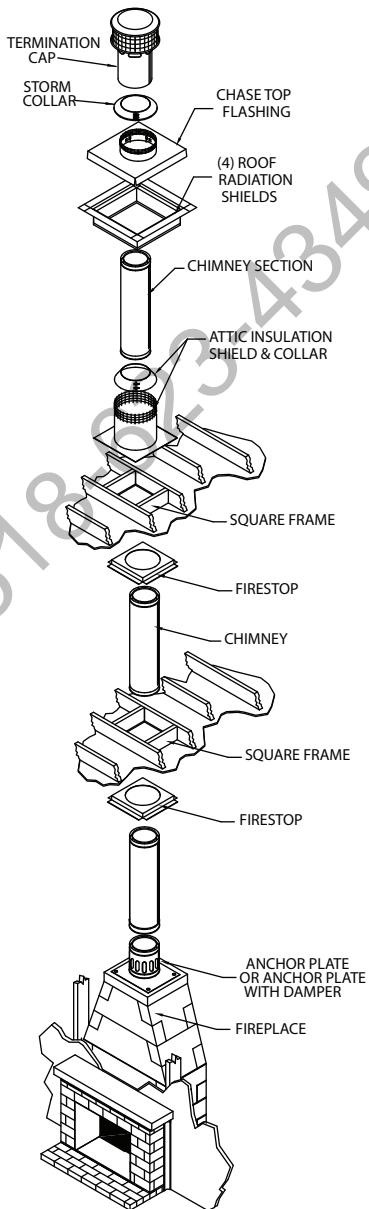
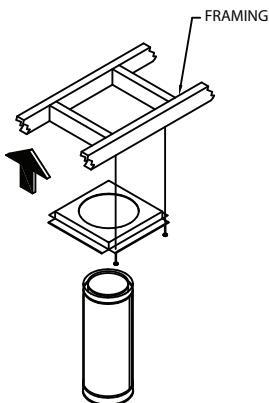

Figure 4
Figure 5
5. Frame Openings: From the ceiling, drop a plumb bob to the center of the fireplace's flue outlet and mark this center point on the ceiling. Refer to **Table 1** for the framing dimensions. Mark appropriate cutting lines around the center point. Cut a square hole in the ceiling. Frame a level, square opening centered over the hole that you have cut. Frame openings at each floor level above the Fireplace (*Fig. 4*). These openings are to hold the Firestop and Attic Insulation Shield. Locate each opening by
7. Install Firestop: A Firestop is required on each floor penetration in multistory installations. Building Codes require a Firestop at every floor/ceiling level, including where the chimney penetrates into the attic. **Figure 4** shows a typical 2-story installation with an attic. **Note:** a Firestop is not installed where the chimney penetrates through the roof. The Firestop is installed on the underside of the ceiling/floor framing (**Fig. 5**). Use a minimum of either one (1) 8-penny nail or one (1) #8, 1-1/4" wood screws per corner.